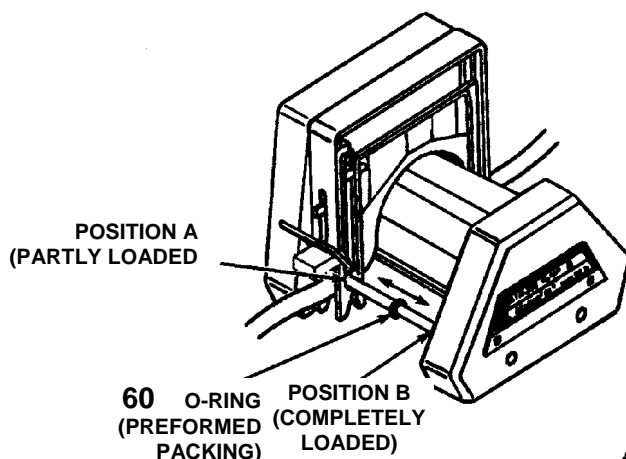

fig. 39
5.1.2. Pump operation with partial use of a multi-channel pump head (fig. 39)